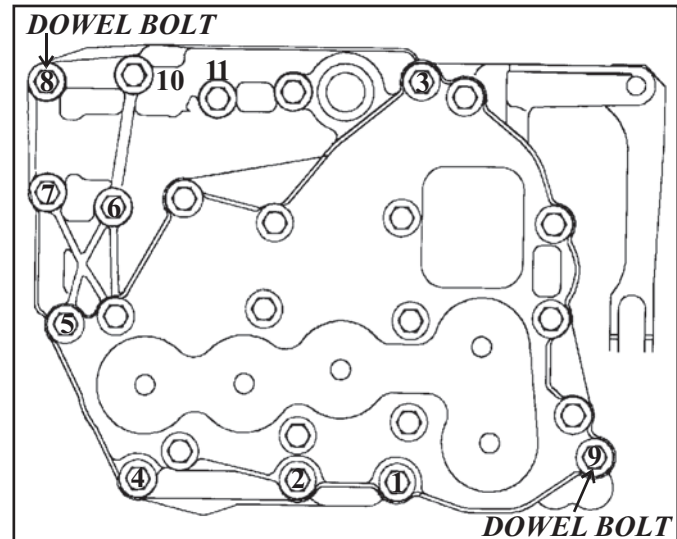

Figure 218
53. Align the valve body to the case using the dowel bolts shown in Figure 218.
54. Start all valve body bolts by hand and torque the bolts to 11 N•m (97 in. lbs) in the numerical sequence shown in Figure 218.